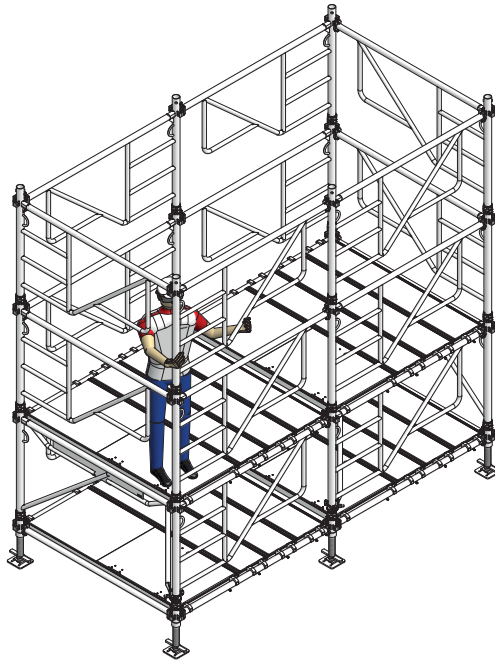

Fig. 17.1
16. Standing on the scaffold platform of level 1, install the frames 100 MT for level 3 (Fig. 17.1).